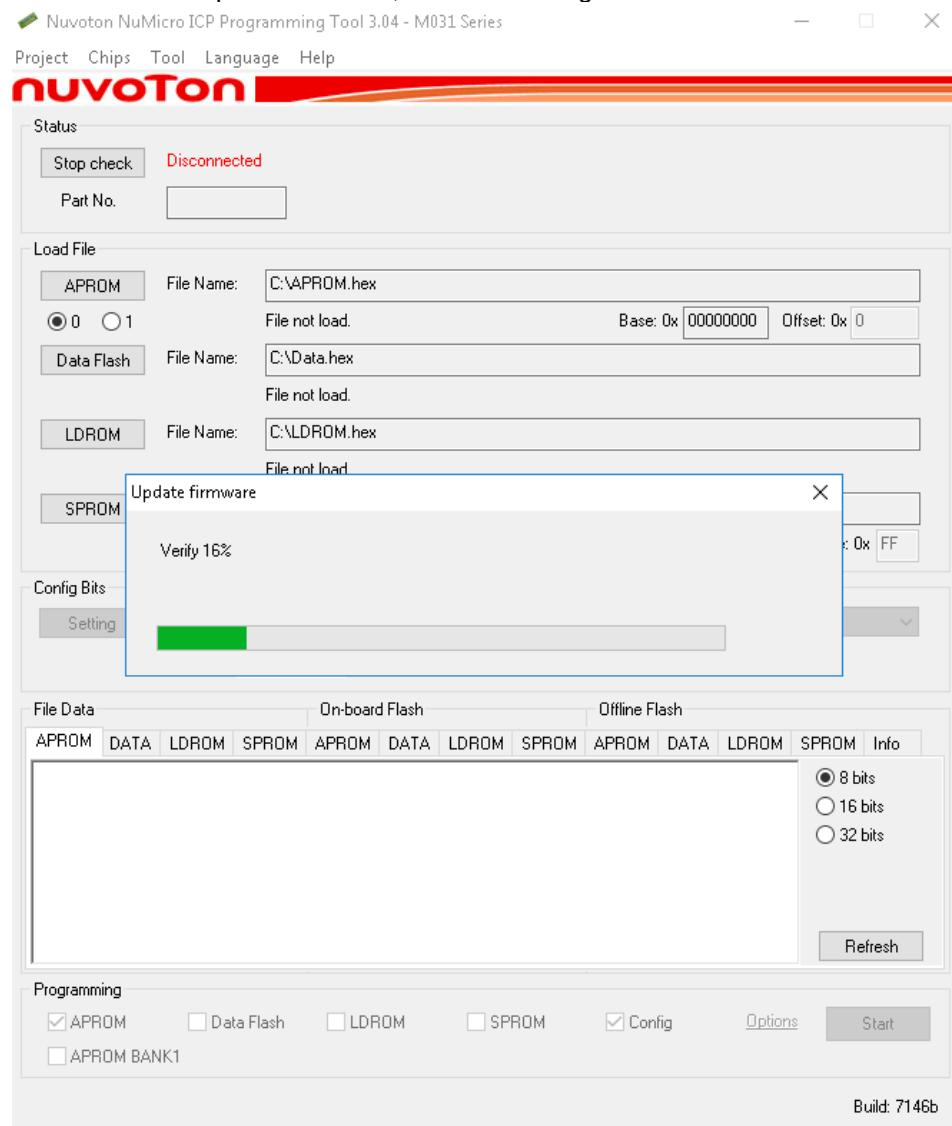

Figure 7-2 Firmware Update Dialog Box
Step 2: Click "Yes" to update firmware, as shown in Figure 7-2.